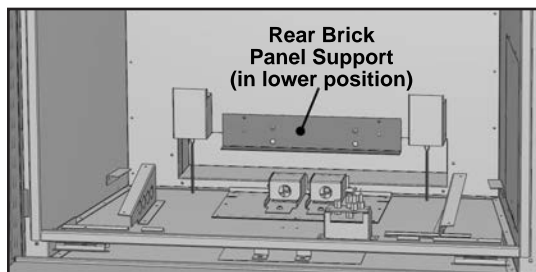

Figure 9: Rear Brick Panel Support.
1. Prior to installing the firebox liners, you will need to ensure the Rear Brick Panel Support is in the correct position. The support is located at the back of the firebox (see Figure 9) and can be installed in two (2) positions. The upper position (using the lower screw holes) is for the October Panels. The lower position (using the upper screw holes) is for the Sandstone, LedgeStone, and Porcelain Panels. Remove the Support, if necessary, and move it to the appropriate placement.